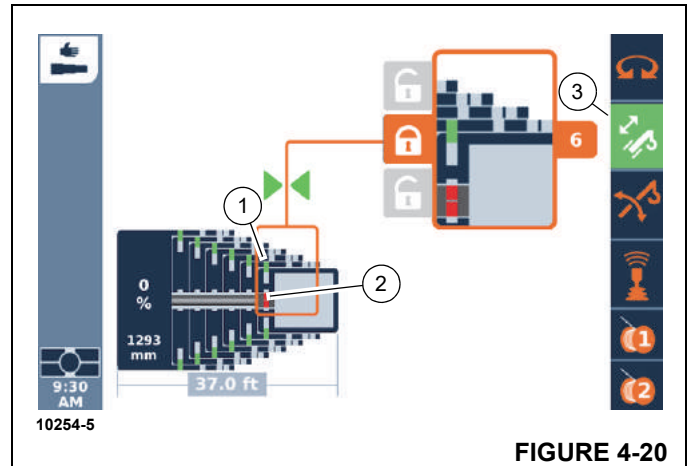

FIGURE 4-20
- Telescoping function enabled – symbol (3, Figure 4-20) green
- Telescopic section locked – symbol (1) green
- Telescoping cylinder unlocked – symbol (2) red